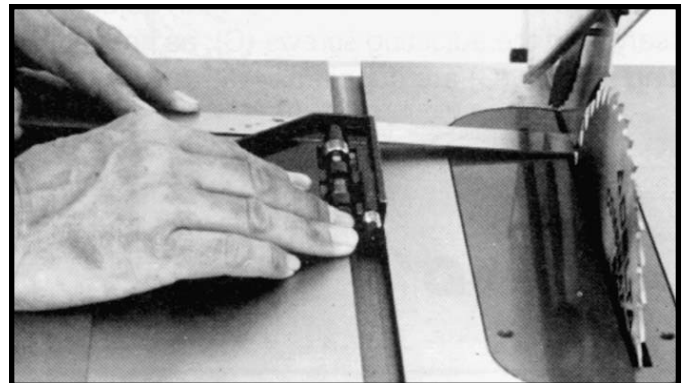

Fig. 50
2. Rotate the saw blade so that the same tooth you used in **STEP 1** is in the rear position, as shown in Fig. 50, and check this distance. Both the front and rear measurements should be identical.